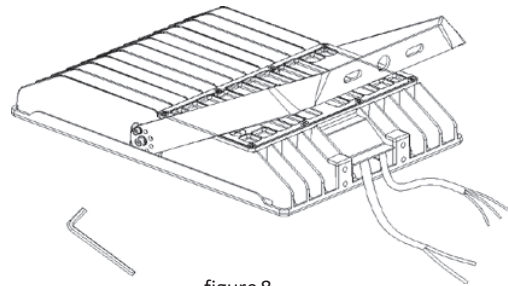

figure 8
1. Attach yoke to head using hex wrench (not provided). (see fig 8)